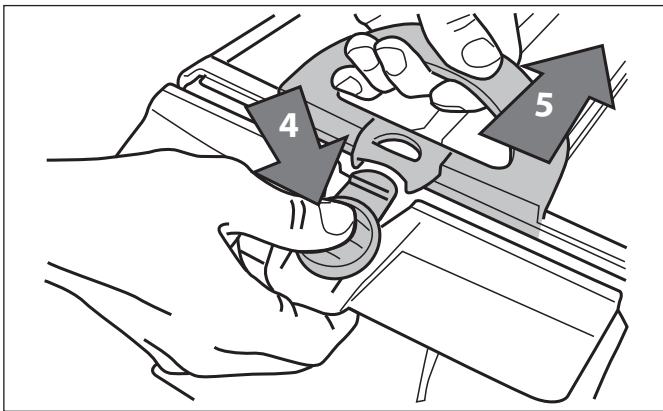

Figure 21. Open Filter Canister Assembly
- Push the quick release button on the canister assembly (4) and pull open (5) Figure 21.